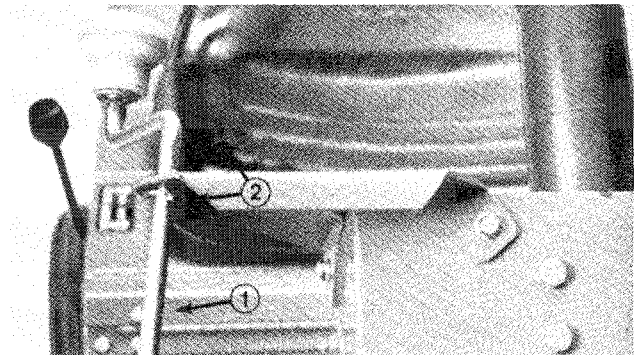

Figure 7
1. Install a cotter pin into top hole in chute crank shaft (Fig. 7).
2. Slide a washer onto crank shaft and insert crank shaft thru mounting hole in top bracket (Fig. 7).
3. Slide another washer onto crank shaft and secure with cotter pin (Fig. 7).